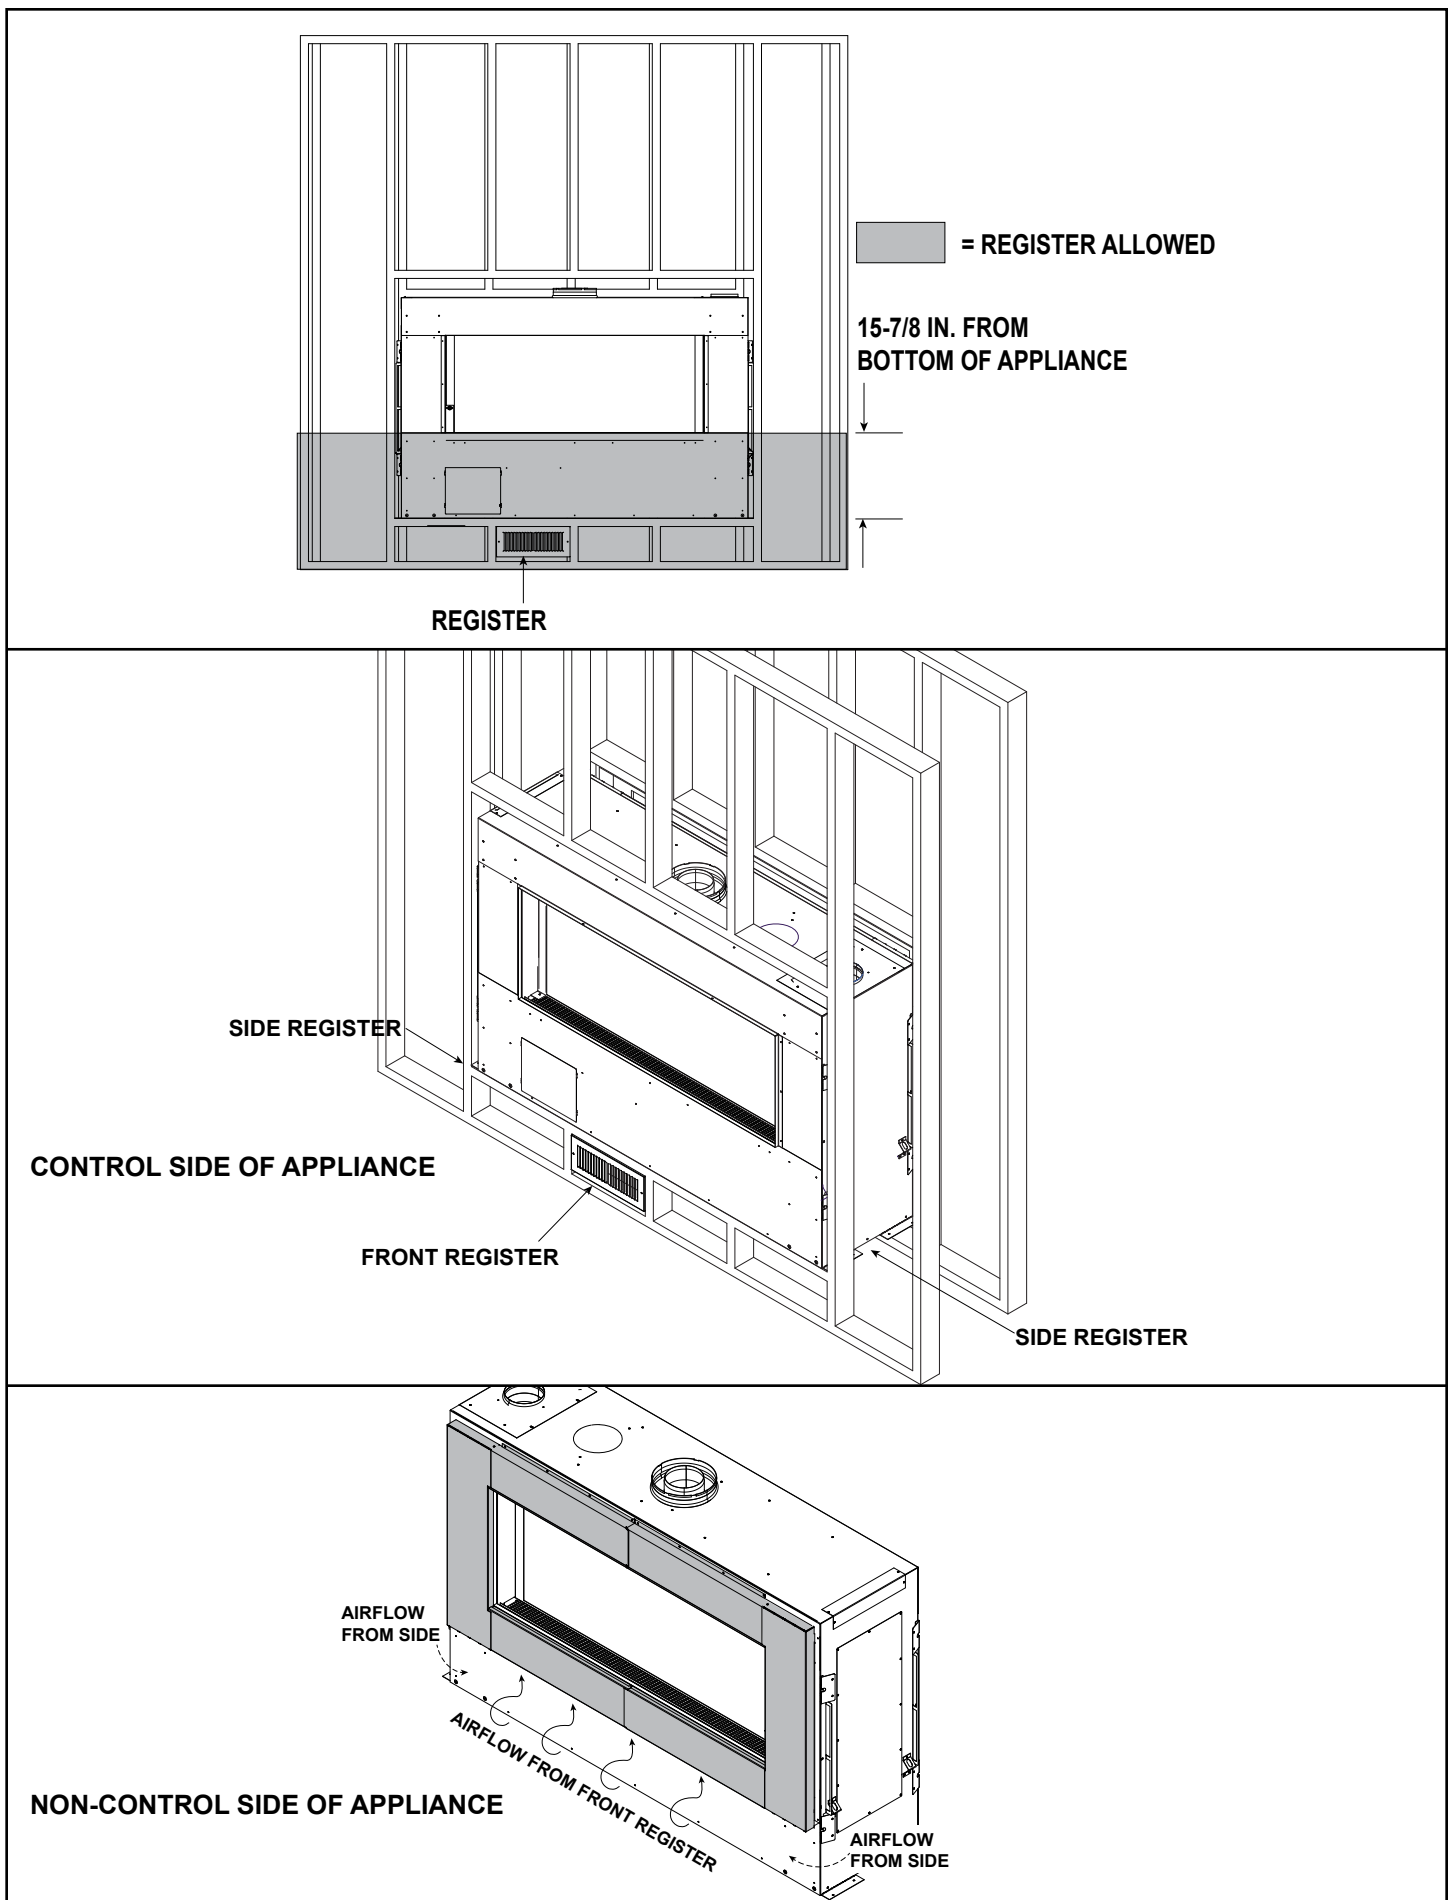

Figure 5 Air Flow Diagram - Front and Side Views
3. Proper convection air flow must be maintained. See Convection Air Opening Requirements section and Figure 5 for air flow diagram. Ensure installation of appliance and window allow for proper air flow. Consider register and airflow opening when planning installation. Do not block register cover or air inlet.
- Vent area must be in a location that is below the bottom of the ODK kit as the airflow enters from the bottom. See Figure 5.
- If the register is located on one side, the framing must allow for airflow to both sides of the appliance and to the bottom vents. See Figure 5.